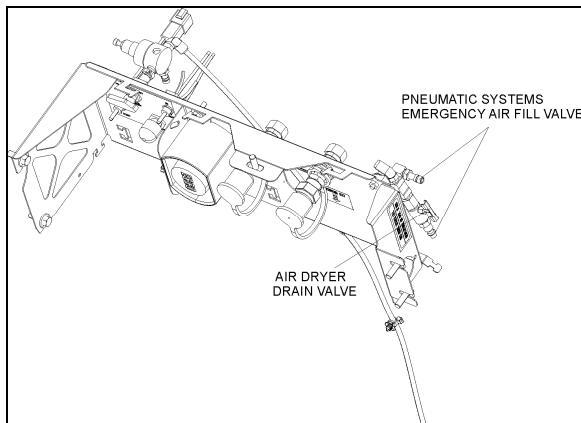

FIGURE 2: REAR VALVE LOCATION
The rear valve is located in the engine compartment and is accessible from engine compartment R.H. side door (Fig 2.).
1. Release air dryer pressure by opening the air dryer drain valve (fig.2).